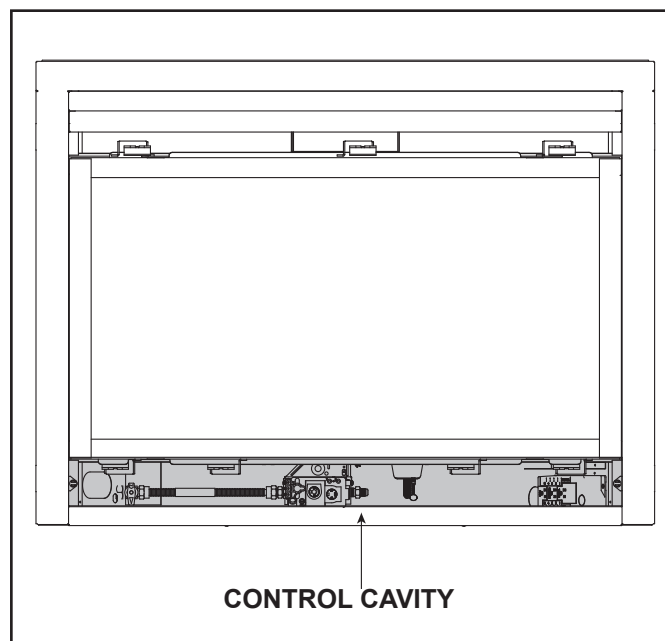

Figure 3.5 Battery Pack Location
The IntelliFire Touch® intermittent pilot ignition system comes with a battery backup system that enables the system to operate in a power outage. The system offers seamless transition from household AC power to battery backup. A factory-installed battery pack is located in the control cavity of the appliance. See Figure 3.5. Battery longevity and performance will be affected by long term exposure to the service temperatures of this appliance.
1. Access the control cavity of the appliance. See Figure 3.5 for location. The decorative barrier front and front refractory may need to be removed.
2. Locate the battery tray and insert four AA cell batteries. Battery polarity must be correct or module damage will occur. See Figure 3.5. A complete wiring diagram is included in the Electrical section of the appliance Installation Manual.